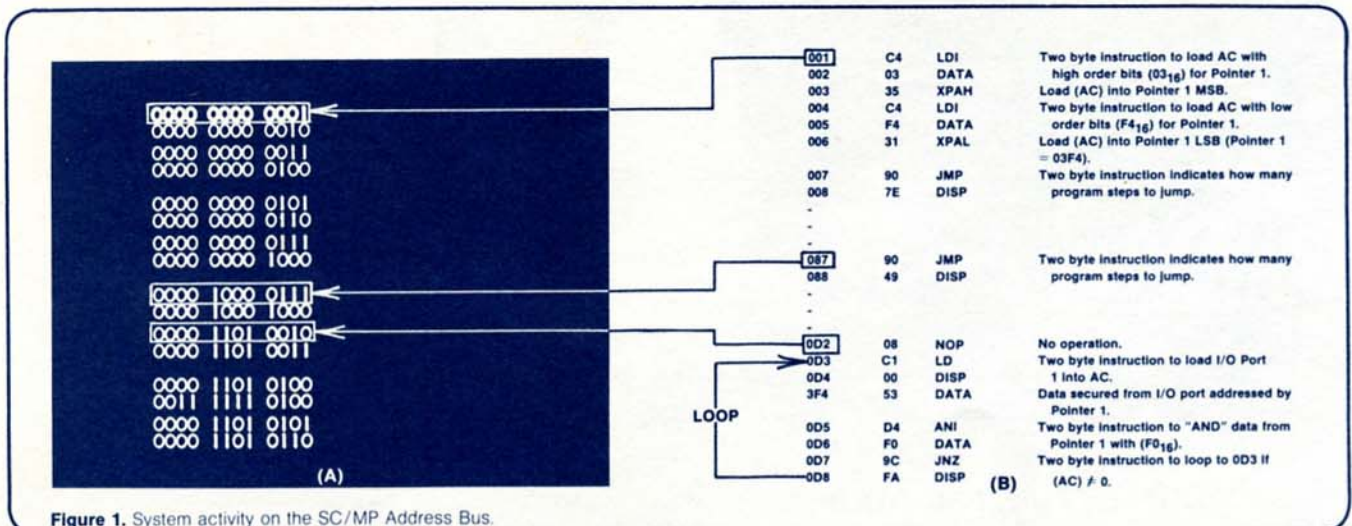

Figure 1. System activity on the SC/MP Address Bus.
Figure 1 shows the display of information on the address bus (A) and the program from which it was derived (B). This figure will help you understand the Logic State Analyzer display. Your own program will do equally well. Proper system program operation is verified by a comparison of the table display with the program listing.